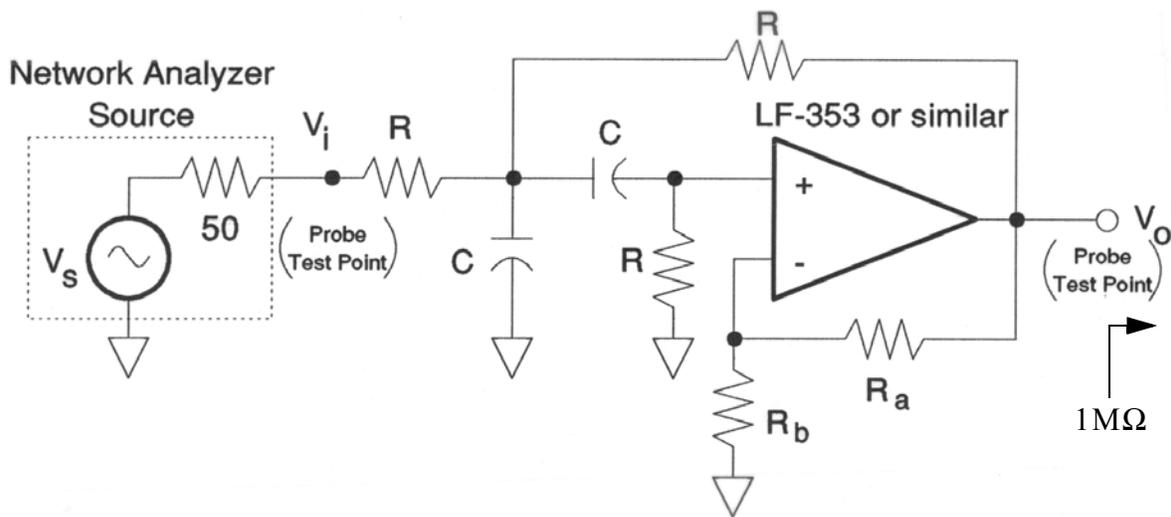
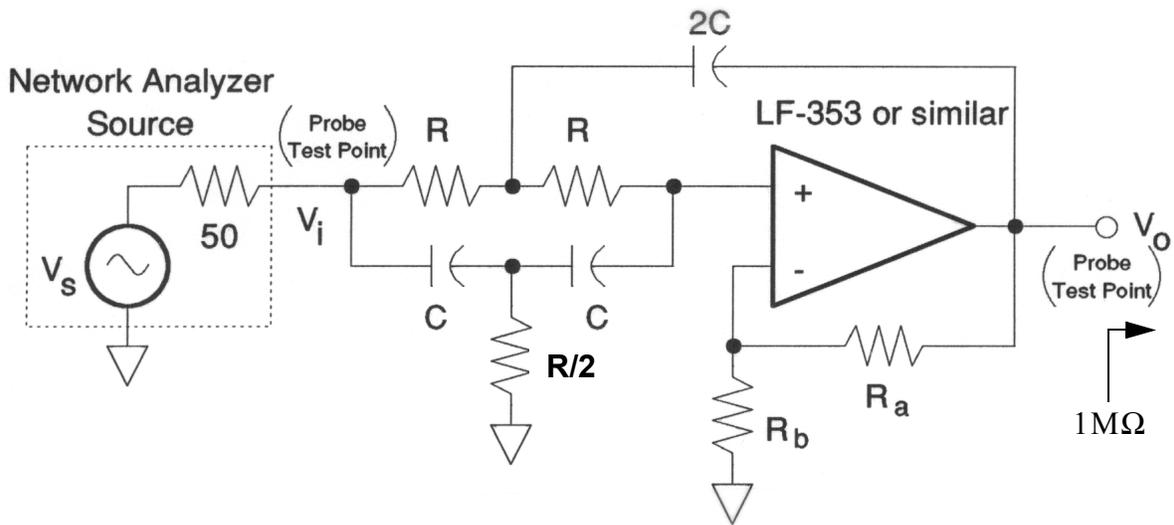

Figure 4: Second Order Sallen-Key BPF
Figure 6: Second Order Sallen-Key BSF
The design formulas for second order Sallen-Key BPF and BSF filters are provided below¹. The circuit diagram of an equal component BPF is shown in Figure 4. The filter transfer function
A general BPF frequency response showing the relation between Q and BW is shown in Figure 5a. The schematic of the Sallen-Key BSF is shown in Figure 6. The filter transfer function is given by
- (a) Design and build either a BPF or a BSF as shown in Figure 4 and Figure 6 respectively. Use an LF-353 or similar (bi-fet) op-amp. Design the filter to have a center frequency of about 10 kHz and $2 \leq Q \leq 5$. As a starting point you may wish to choose $C = 1$ nf. To allow a variable Q you may also wish to replace the gain set resistors, R_a and R_b , with a potentiometer (10 k ohm works fine).